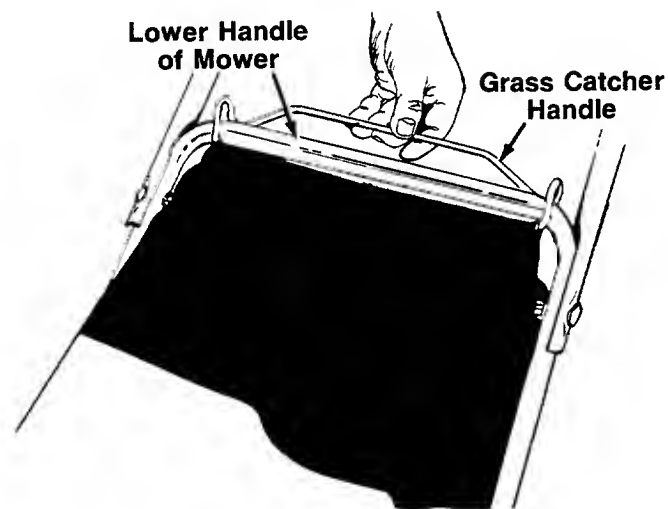

FIGURE 14.
3. Hook the handle on the rear of the grass catcher over the lower handle of the mower. See figure 14.